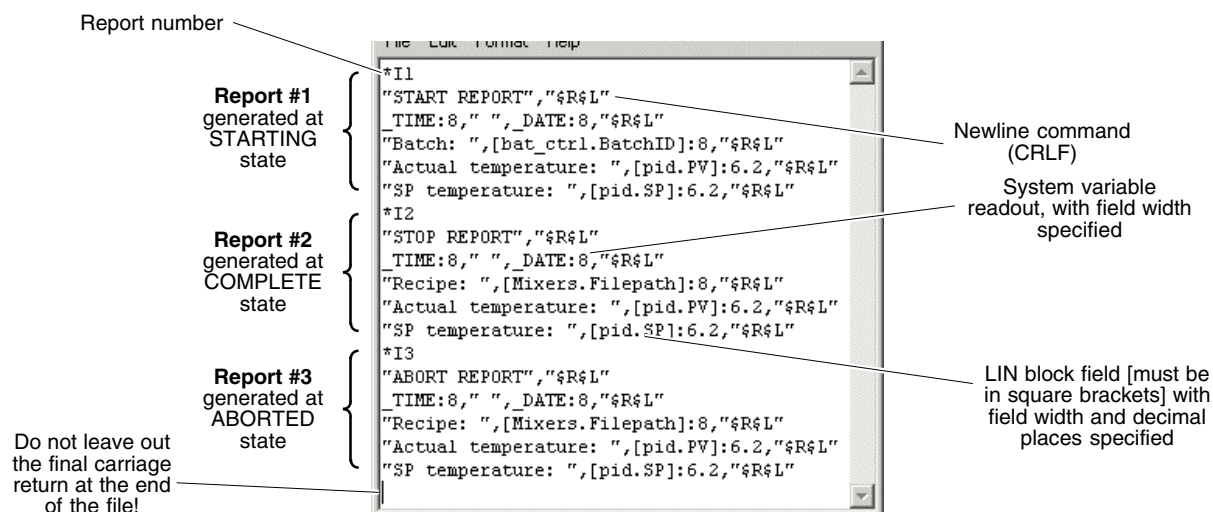

Figure 6-9 The configured ‘batch.uyf’ report form file
- 1 Open a blank text editor window (e.g. in ‘Notepad’) and type in the text exactly as shown in Figure 6-9.
To successfully format a batch report, the file must be partitioned into three sections, identified by ‘report numbers’ \*I1, \*I2, and \*I3. The first section formats a report generated when the batch engine enters the STARTING state (the ‘Start Report’). The second section (‘Stop Report’) activates when the COMPLETE state is entered, and the third (‘Abort Report’) if and when ABORTED is entered. **This arrangement is mandatory for batch report form files.** The *contents* of each report section is optional. In the example in Figure 6-9:
- 8 At the Computer, explore the report contents. Open up the report in 'Notepad'. Figure 6-11 shows the sort of thing you might see. If you compare this with the form file, see Figure 6-9, you will see that the 'Start report' and the 'Stop report' sections have been used. No 'Abort report' appears because you did not abort the batch. Try this next.